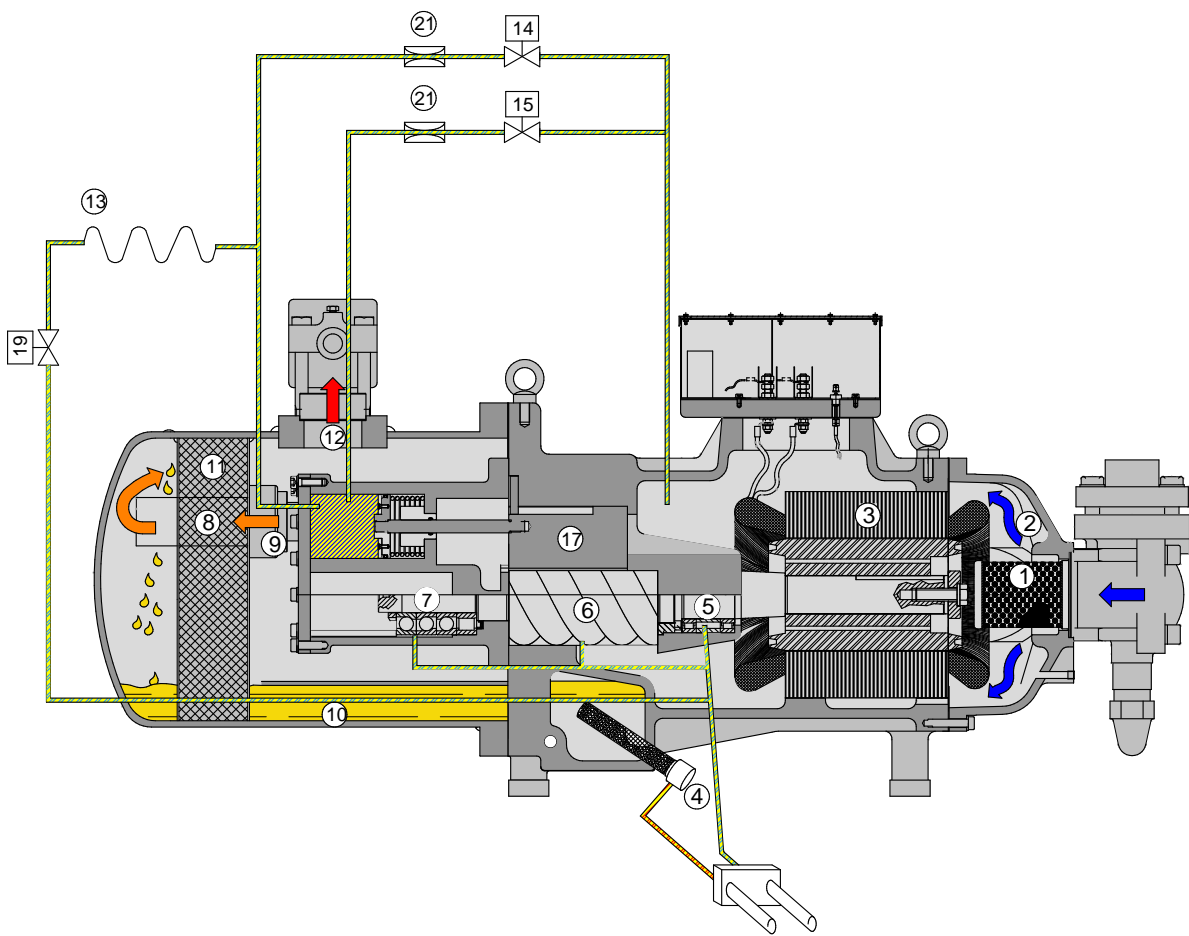

Fig. 7: diagram of the internal oil circuit for lubrication and operation of the slide valve;
The lubricant is held in the bottom of the housing and in the oil separator. As shown in Fig. 7, the oil separator of the SRC-S compressors is connected directly to the front of the compressor flanged casing.
The high-pressure oil-gas mixture undergoes to a separation process in the 'DEMISTER', part (11) in Fig. 7 (see paragraph 3.4 'Oil separation'); then the oil is collected at the bottom of the oil separator while the gas leaves the compressor through the discharge shut-off valve located on top of the oil separator.
- ✓ actual filtering of the discharged gas by the "DEMISTER" (part (7) and (11) respectively in Fig. 7; variation in direction and speed of the compressed refrigerant-oil mixture).
The compressors are fitted with a high efficiency oil filter. In models SRC-S-113÷163 this is positioned inside the compressor, and therefore to be inspected the discharge bell and the oil separator need to be removed. In the remaining models of the SRC-S series, on the other hand, the oil filter is positioned on the bottom of the crankcase, as shown in Fig. 73, and as a result it is easily accessible from the outside of the compressor. For further details on the position, see chapter 8: "*Dimensional drawings and packaging*".